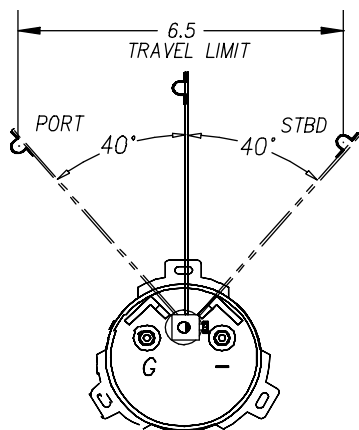

Figure 2
2.) Most installations are unique, it may be necessary to construct a platform on which to mount the sender to be in the proper position relative to the steering mechanism. It will be necessary to fabricate a linkage (i.e.; a small diameter stainless steel rod) to connect the sender arm to the rudder's tiller arm or quadrant. The linkage must be free to pivot at either end. Also, position the sender so that when the steering is turned from "stop to stop" the sender arm's 6.5 inch travel limit is not exceeded (see Figure 2). Exceeding this travel limit will result in damage to the sending unit.